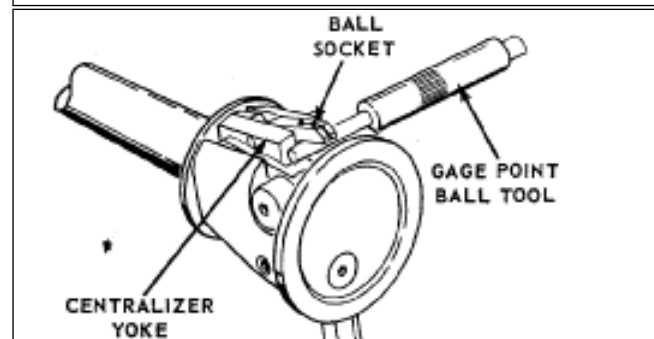

FIGURE 9
3. Depress Centralizer Yoke and insert Gage Point Ball Tool to prevent damage to gage when reinstalling Ball (see Figure 9).